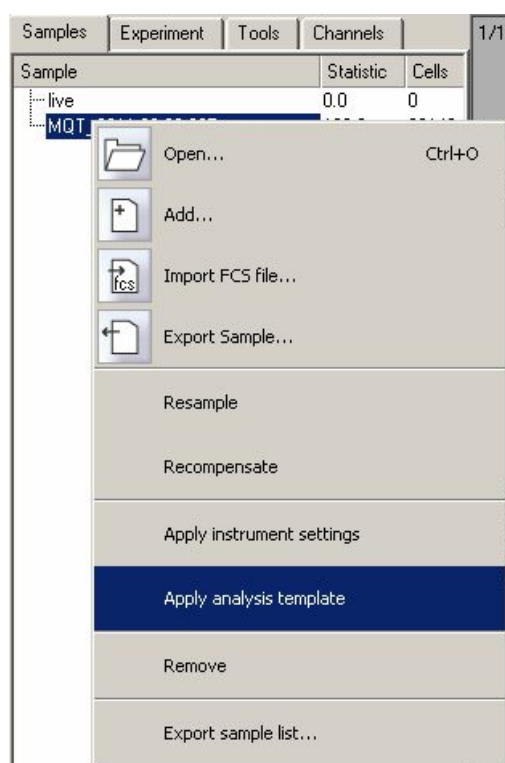

Figure 7.5 Applying analysis template saved within .mqd files.
- 2) Select **apply analysis template** (see Figure 7.5).